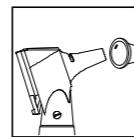

fig.2
2. Select a reasonable tip for patient's ear canal and push it onto the hand and screw the tip clockwise, refer to **fig.2**. Generally, the tip size of 4mm is for adult and 2.5mm is for children;